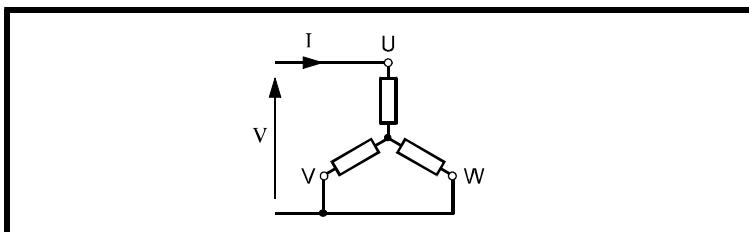

Figure B-1 Connecting a motor to a DC source for mechanically aligning the encoder shaft
- 3 Apply a *direct current* of 50% of the motor rated current through the motor windings, as shown in Figure B-1.